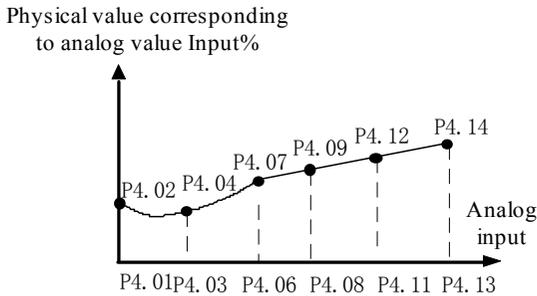

Fig. 5-4-2 Analog input non-linear curve
- ◆ When P4.00 is set to 1, 2, or 3, the function of P4.01~P4.04, P4.06~P4.09 and P4.11~P4.14 are combined for one physical value, which is different to Note 1. User can define their own nonlinear curves by setting these parameters. Six points can be set on the curve. As shown in Fig. 5-4-2. In addition, the setting value to P4.01, P4.03, P4.06, P4.08, P4.11, P4.13 must increase in order.